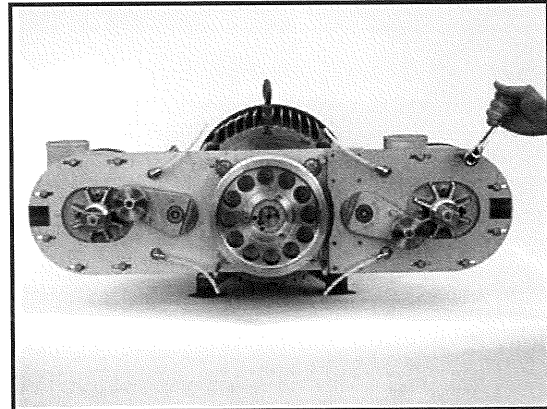

Figure 16 – Remove Blower Head
4. Using the ½ inch box-end wrench, remove the eight screws from the bracket that secure the blower head. (See Figure 16)